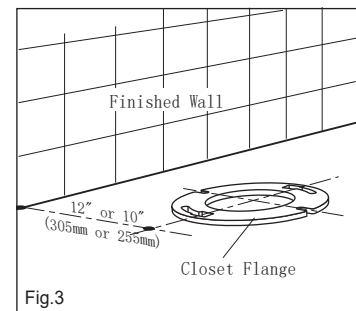

Fig.3
1. It is important for the installation of Caravelle Smart 2 PC washdown bowl that the closet flange be accurately set out from the finished wall as detailed in Fig.3.